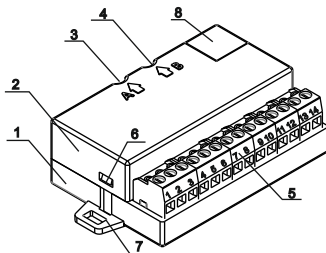

Fig.1 - Picture of input/output device
The Input-Output device FD7203 (fig.1) is designated to produce and send an electrical signal to various devices in case of occurred events and recording external impacts, typical for a fire condition events. The device is compatible with addressable fire control panels IFS7002, supplementing the possibilities of the addressable systems of series IFS7000.
The device consists of a printed board with elements, mounted on a plastic base (pos.1, fig.1) and closed by a cover (pos.2, fig.1). The base has an implemented terminal bus (pos.5, fig.1), through which cables connect the addressable loop, the power supply and etc.
Two LED indicators are built-in the device (pos.3 and 4, fig.1) illuminated in yellow (A) and red (B) light, providing device status information.
LED indication (pos.3 and 4, fig.1) is providing information for the device condition as follows:
1.2. Open the cover (pos.8, fig.1), under which is situated the four positional switcher.
1.6. Fix the device to the chosen for that purpose place (pos.7, fig.1).
The cables are assigned through terminal bus (pos.5, fig.1).